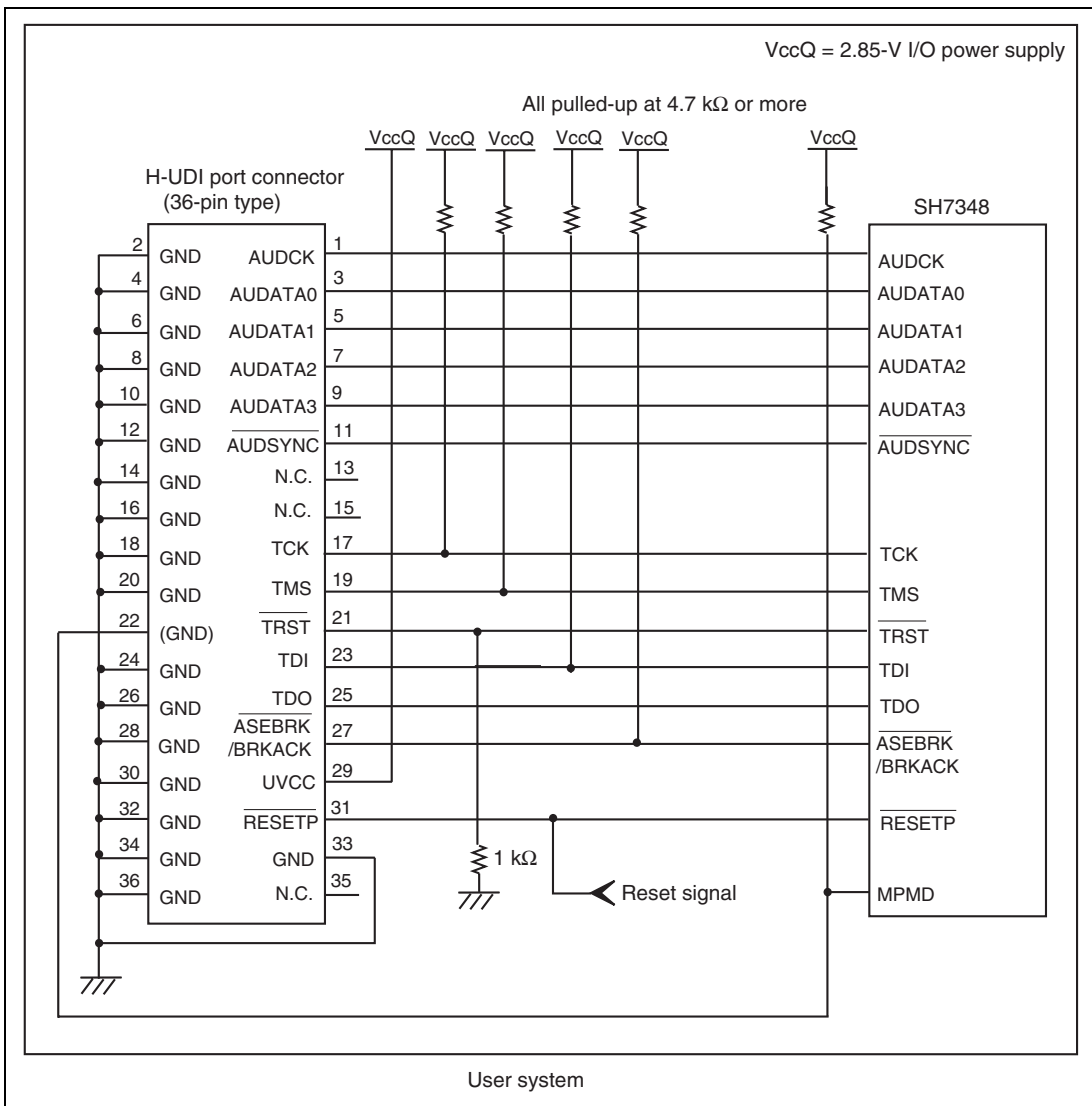

Figure 1.2 Recommended Circuit for Connection between the H-UDI Port Connector and MPU when the Emulator is in Use (36-Pin Type)
Figure 1.2 shows a recommended circuit for connection between the H-UDI and AUD port connectors (36 pins) and the MPU when the emulator is in use.
- (1) When the emulator is used: $MPMD = 0$
- (2) When the emulator is not used: $MPMD = 1$Figure 1.2 shows an examples of circuits that allow the MPMD pin to be GND (0) whenever the emulator is connected by using the user system interface cable.
7. The resistance values shown in figure 1.2 are reference.